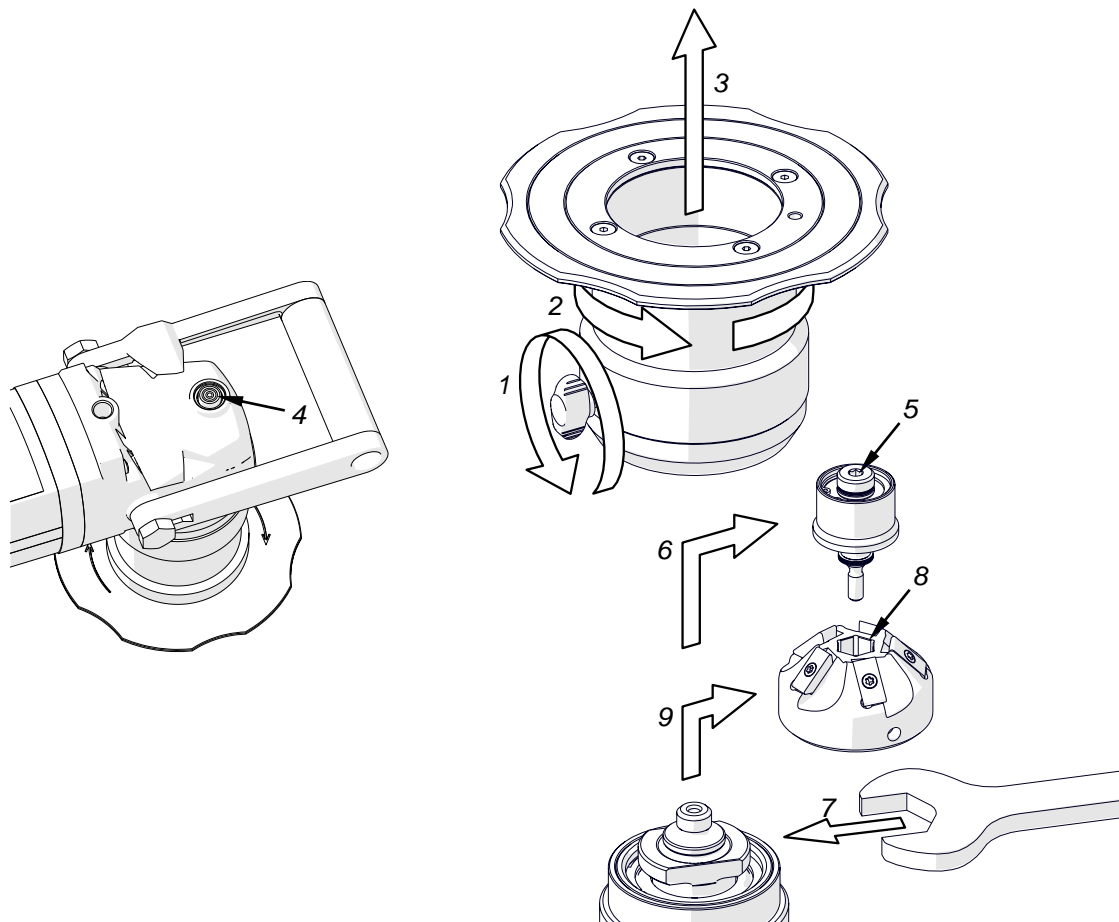

Fig. 3. Removing the milling head
To remove the milling head, loosen the clamping screw (1, Fig. 3), and then unscrew the sleeve (2) and remove it (3). Next, press and hold the button (4), and then use the 5 mm hex wrench (5) to unscrew the roller, and remove it (6). Lock the spindle with the 32 mm flat wrench (7, do not use the spindle lock button 4 because this may damage the machine), and then use the 14 mm hex wrench to unscrew the head (8), and remove it (9).